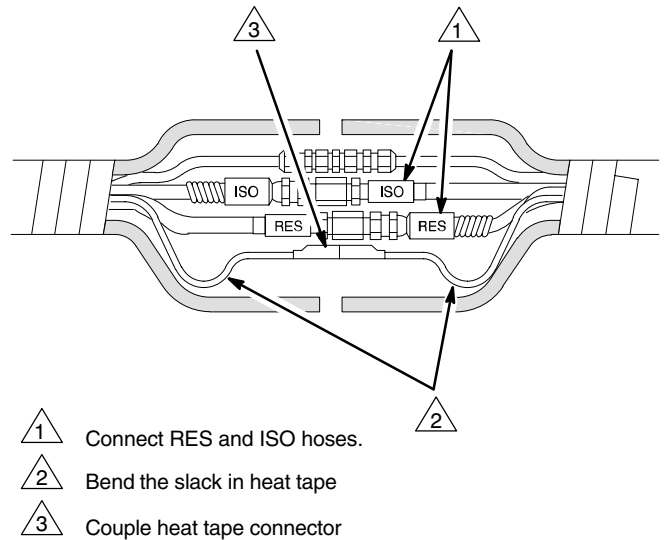

Fig. 1
The fluid hoses are marked ISO or RES and are oppositely coupled to prevent incorrect connection, which can cause fluid crossover and permanently damage the hose. Refer to Fig. 1.
- Connect the corresponding fluid hoses of each 50 foot (15.2 m) assembly. See Fig. 1.
- Gently bend the slack in the heat tape on both sides of the tape connectors as shown in Fig. 1.